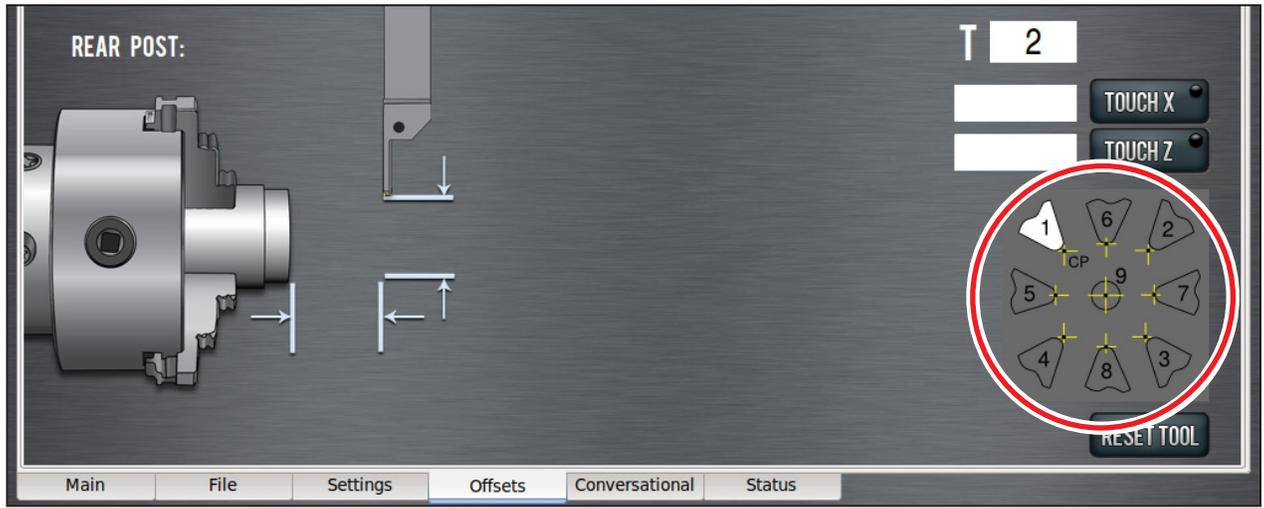
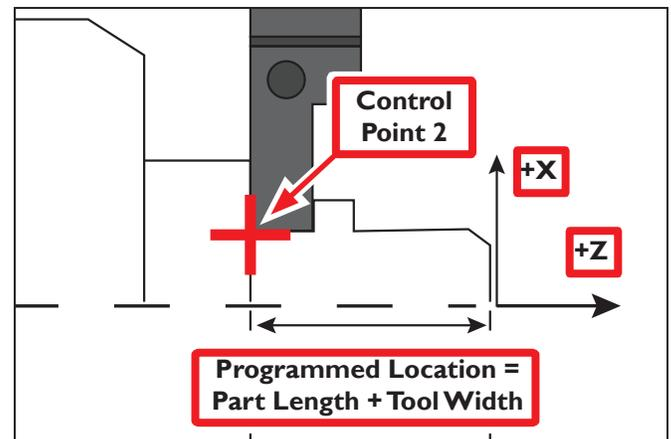
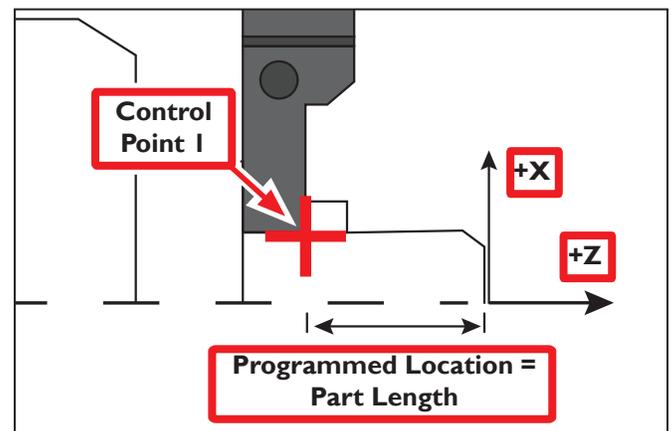

Figure 4.19
Figure 4.20
Figure 4.21
**NOTE:** The control point diagram (see Figure 4.19) illustrates the parting tool's control point is 1 – on the right of the tool – as shown in Figure 4.21. This takes into account the length of the part, not the remaining stock in the spindle (see Figure 4.20 and Figure 4.21). For more information on control points, refer to chapter 6, Programming.
**NOTE:** The width of the insert is included when setting tool 2 because the control point of a parting tool is the right edge, not the left edge (see **Figure 4.20** and **Figure 4.21**).